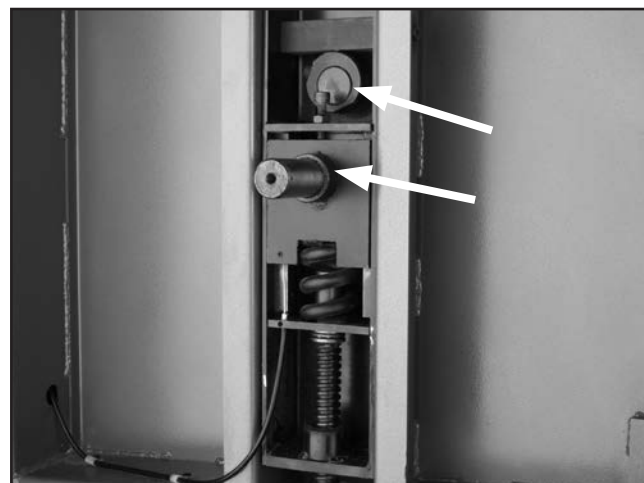

Figure 72. Tension adjustment assembly locations (top wheel removed for clarity).
4. Apply a thin coat of grease to the tension adjustment assembly and tension lever cam (see **Figure 72**).